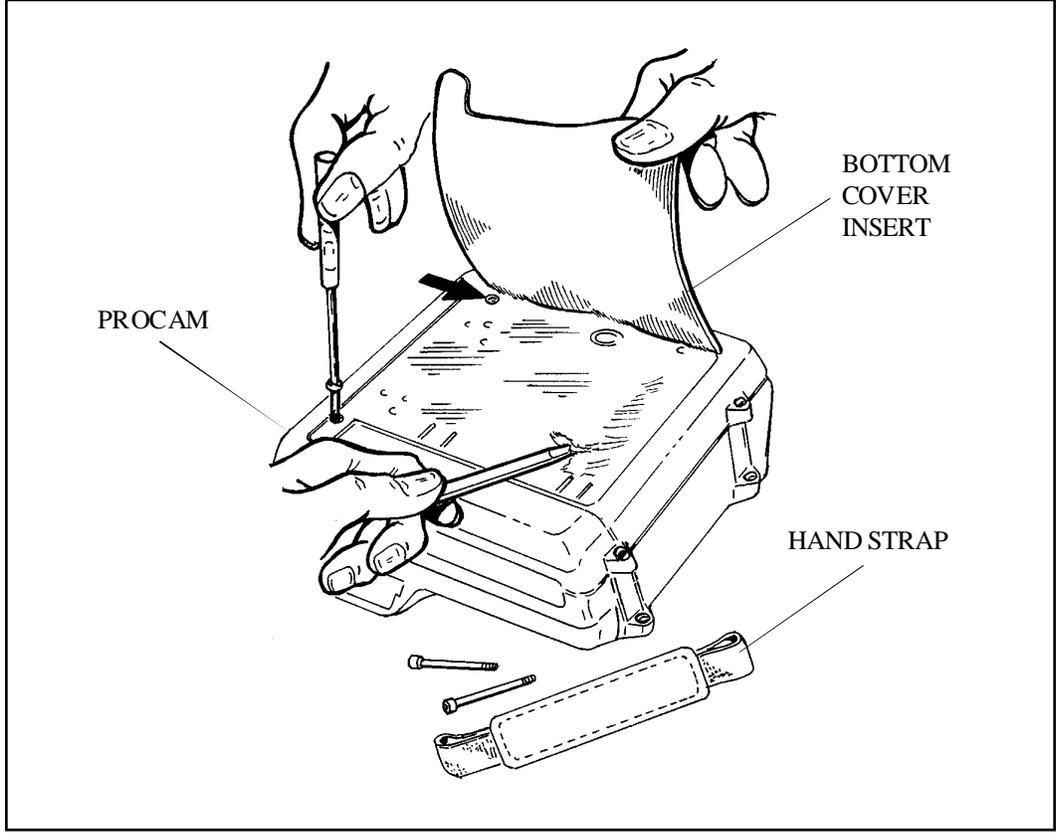

Figure 3-3. Removing Cover Inserts
- d. Remove Bottom Cover Insert and remaining two square drive lugs screws (Figure 3-3).